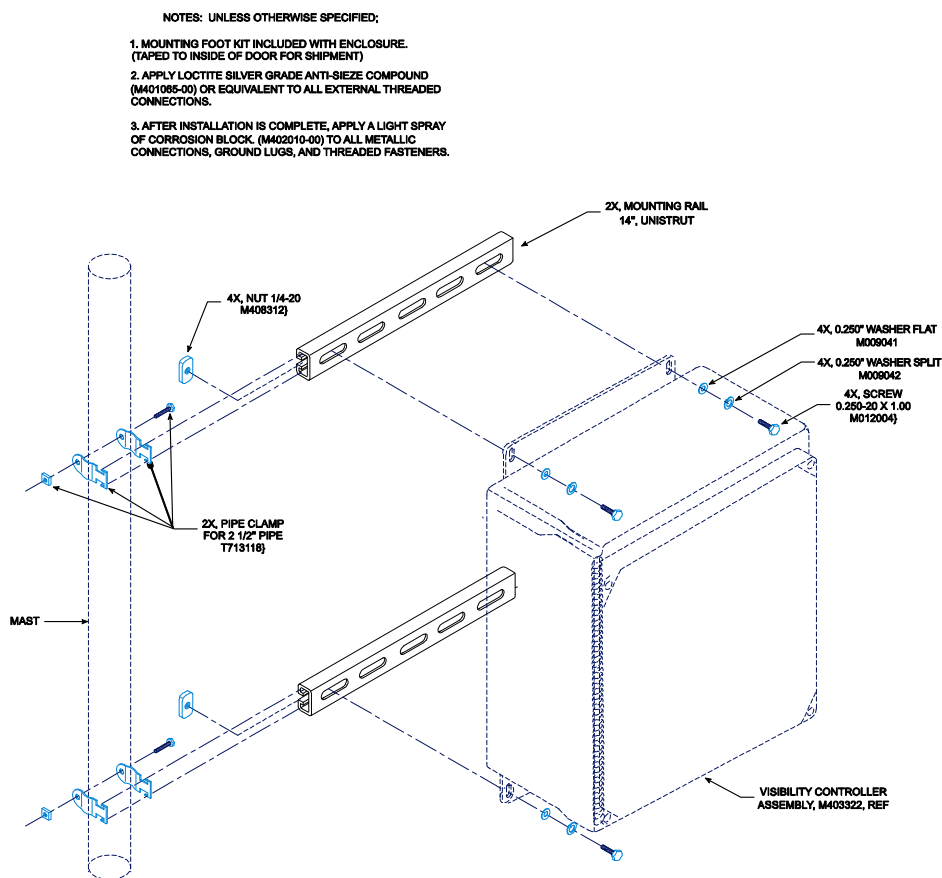

Figure 2-8. The visibility controller mounts to the visibility sensor mast beneath the sensor crossarm using the M488173 mounting kit.
1. Mount the visibility controller on the mast with the top of the enclosure 5'6" (167 cm) from ground level, or at least 3 feet (1 meter) above maximum snow level using mounting kit M488173 as shown in **Figure 2-8**.